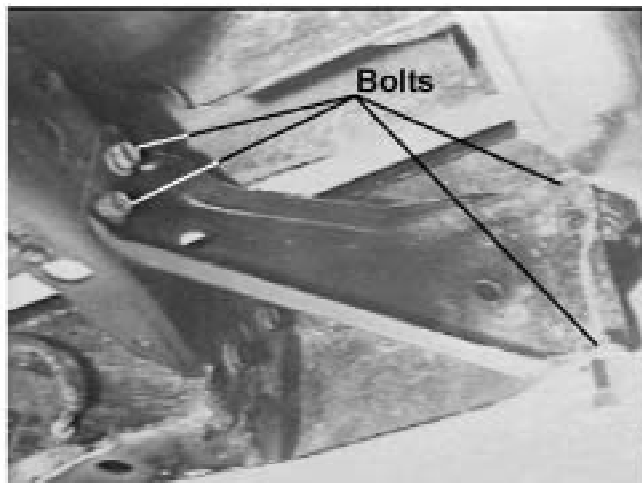

Figure 3
1. Remove outboard bumper brackets by removing two bolts from vehicle frame and two bolts securing bracket to bumper. See Figure 3.